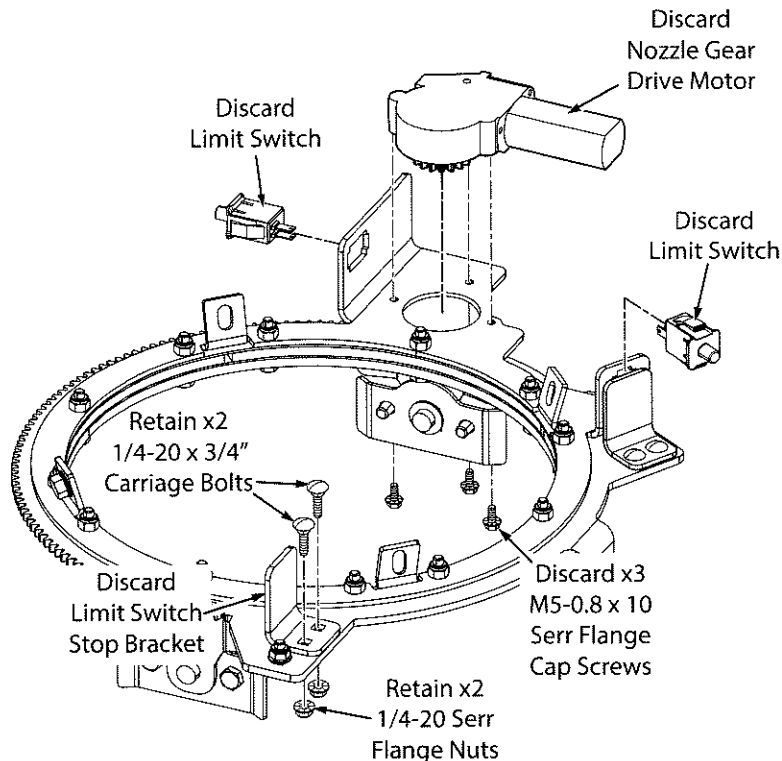

Figure 1. Remove Nozzle Gear Drive Motor & Associated Components
5. Remove and discard the nozzle gear drive motor and three (3) M5-0.8 x 10 serrated flange cap screws used to secure the motor to the pivot gear top plate. See Figure 1.
6. Remove and discard the two (2) plunger limit switches attached to the pivot gear top plate. See Figure 1.
7. Remove and discard the limit switch stop bracket identified in Figure 1. Be sure to retain two (2) 1/4-20 x 3/4" carriage bolts and two (2) 1/4-20 serrated flange nuts used to secure the stop bracket to the nozzle pivot gear. This hardware will be reused when installing the new limit switch stop bracket included with this kit in step number 12. See Figure 1.